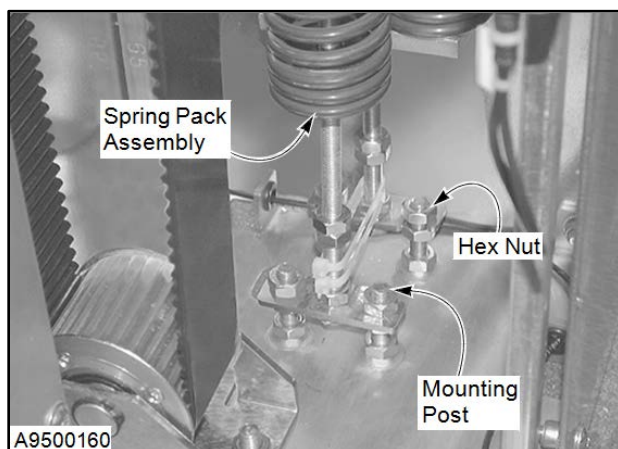

Figure 66
5. Disconnect the associated spring pack assembly from the base plate. To retain the preload setting of the spring pack, loosen only the lower hex nut on each mounting post. (See Figure 66.)